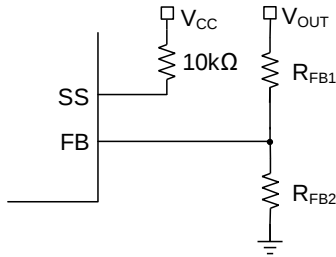

Figure 6: CC + CV Mode
Figure 6 shows the typical connection for SS and FB for CC + constant voltage (CV) mode applications.